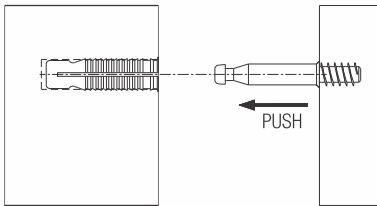

Fig. 2
2. Push the screw into sleeve (Refer Fig. 2).